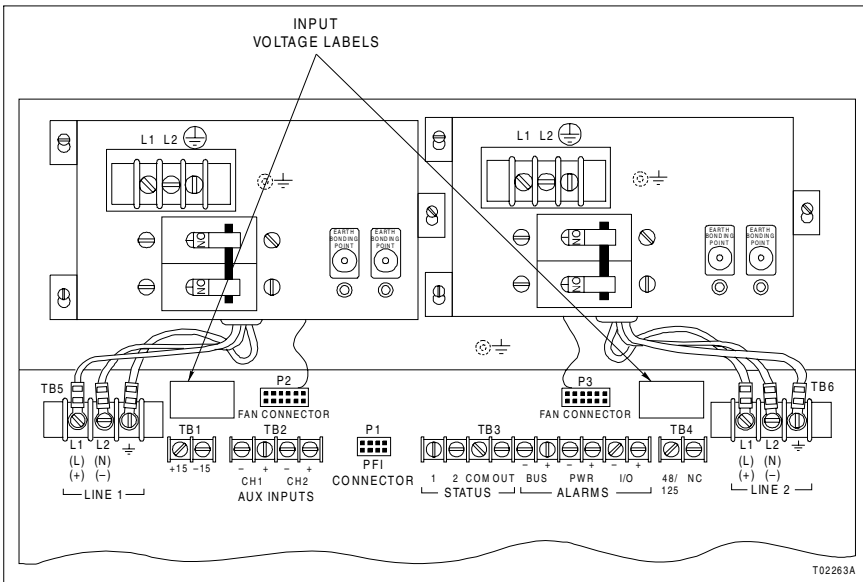

Figure 3-4. Fan Assembly and Power Entry Circuit Breaker or Switch Installation (Rear View)
2. Insert the J2 connector of the fan cable to the appropriate connector directly below it on the power module chassis backplane (P2 or P3). Refer to Figure 3-4.
4. Connect the three lead wires from the power entry circuit breaker or switch to the input power terminals (TB5 or TB6) directly below it on the power module chassis backplane (Fig. 3-4). The terminal screws on the power module chassis backplane should be tightened to 2.3 Newton meters (20 inch-pounds).